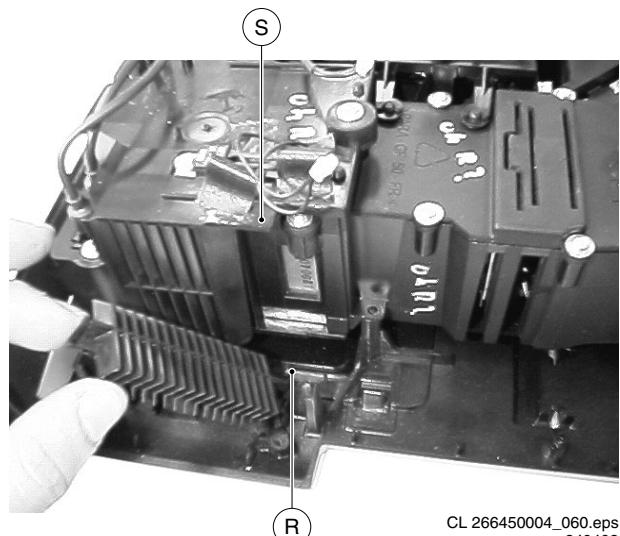

Fig. 16
2. Mounting of air guide: First put the bottom pin into hole "R", and then click the top pin into hole "S". (Fig. 16).